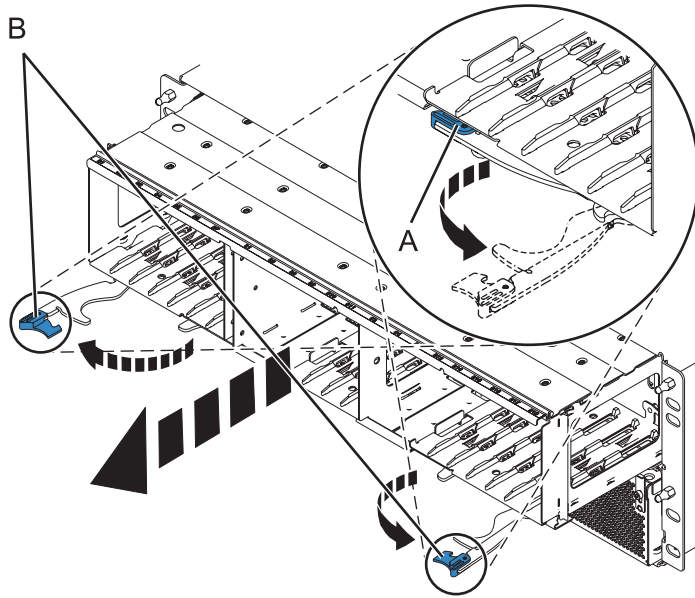

Figure 82. Removing the backplane from the enclosure
6. Remove the backplane as shown in Figure 82 on page 118.
- a. Squeeze the blue latches (A) to unlock the handles.
- b. Pull the handles (B) outward in the direction shown to release the backplane.